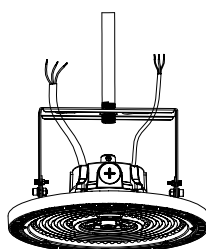

Figure 8
2. Electrical Connection: Once the fixture is mounted, connect the wires to the mains in accordance with local wiring codes and regulations. (See Figure 8)